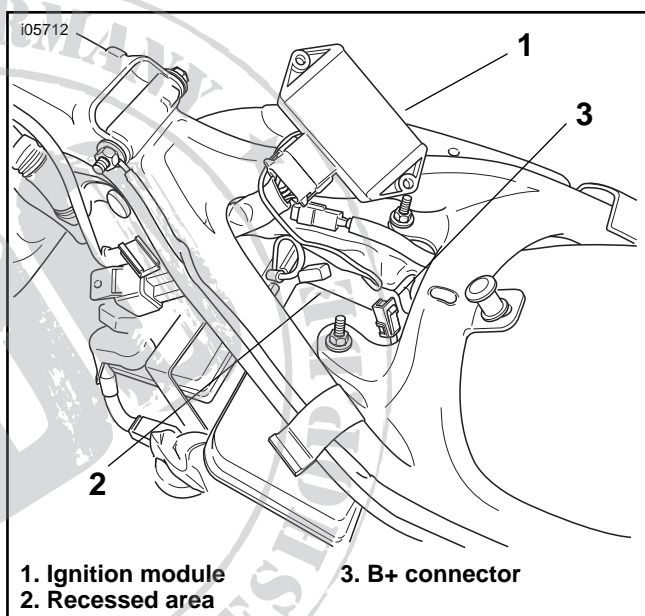

Figure 6. Install the Wiring Harness (2004 and Later Models)
2004 and later XL models: See Figure 6. Remove the nuts retaining the ignition module (1) and temporarily reposition the module as shown. Place the relay in the recessed area (2) of the oil reservoir. Install the ignition module. Route the long leg of the harness along the frame backbone.